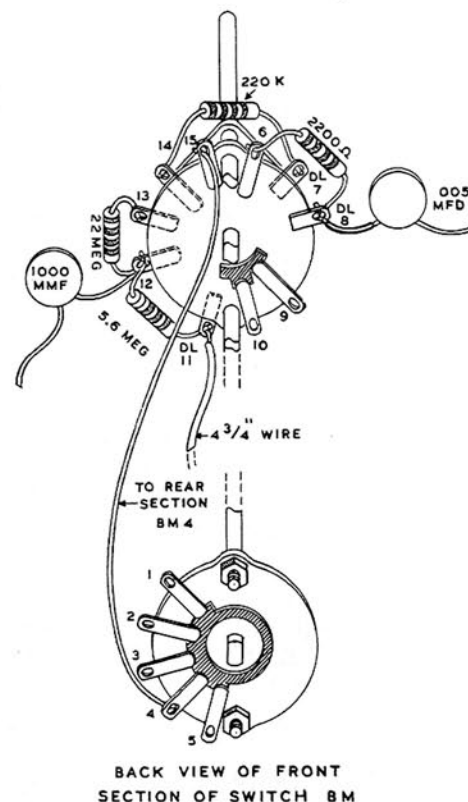

Figure 7
- () 121. The front section of the band switch should be wired before the switch is mounted. Refer to Figure 7 and note that lug 6 is the first long clip to the right of the switch wafer mounting post, looking at the switch from the rear. Connect a 2200 Ω (red-red-red) resistor between switch contact 6 (S) and contact 8 (NS).
- () 122. Cut one lead of a .005 μ fd ceramic condenser (same as 5000 μ μ f) to a length of 3/4" and connect this end to contact 8 (S). (Use sleeving.) Leave the other end free.
- () 123. Install a 5.6 megohm resistor (green-blue-green) from contact 11 (NS) to contact 12 (NS). These contacts are on the front side of the front wafer.
- () 124. Cut a wire to a length of 4 3/4". Strip and tin both ends and connect one end to contact 11 (S). Leave the other end free.
- () 125. Connect a 22 megohm resistor (red-red-blue) from contact 12 (NS) to contact 13 (S).
- () 126. Cut one lead of a 1000 μ μ f condenser (same as .001 μ fd) to a length of 3/8". Connect this lead to contact 12 (S). Leave the other end free.
- () 127. Install a 220 K Ω resistor (red-red-yellow) from contact 14 (S) to contact 7 (NS). Place the insulated body of the resistor against the wafer mounting post as shown.